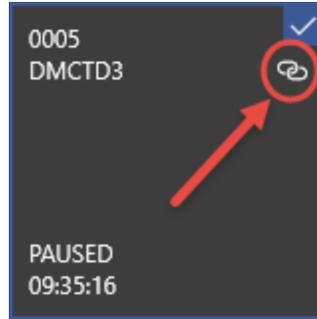

FIGURE 4 CHAIN LINK ON DMC TILE
10. The DMC 2000TD Tile shows chain links briefly (see Figure 4)